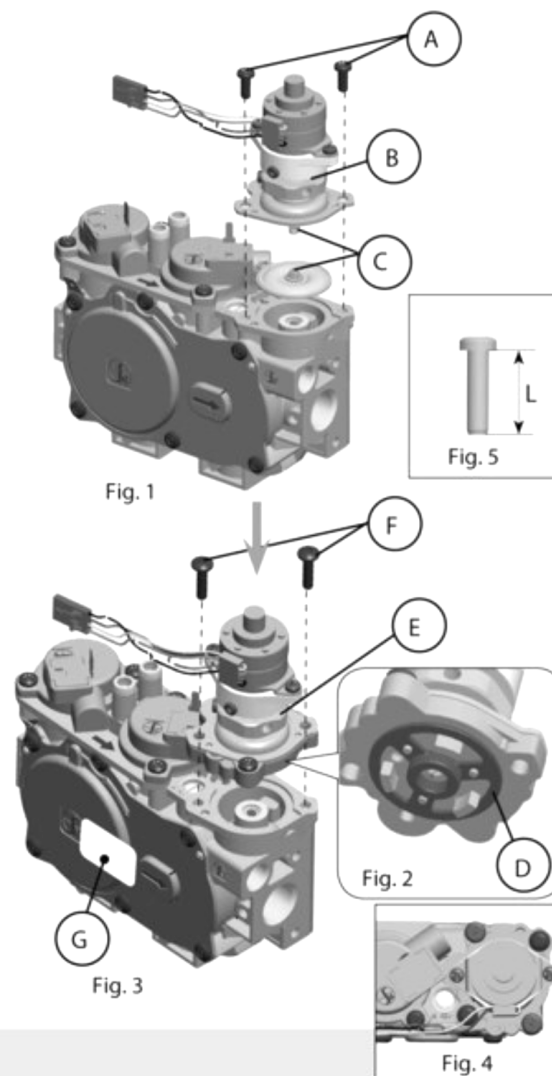

Figure 4-13 Pressure Regulator Conversion
4. See Figure 4-13 2: Ensure the rubber gasket (D) is properly positioned. The rubber gasket is pre-fitted as part of assembly (E).